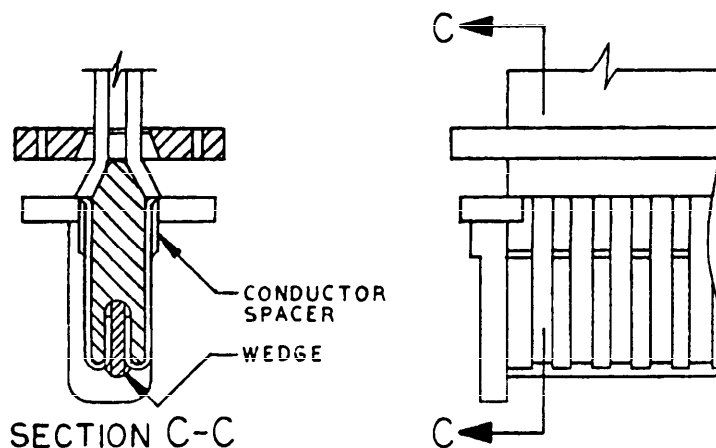

FIGURE 4. Wedge installation.
- D. Apply silicone bonding agent to wedge and seat wedge into wedge groove securely. See Figure 4 (Wedge Installation).